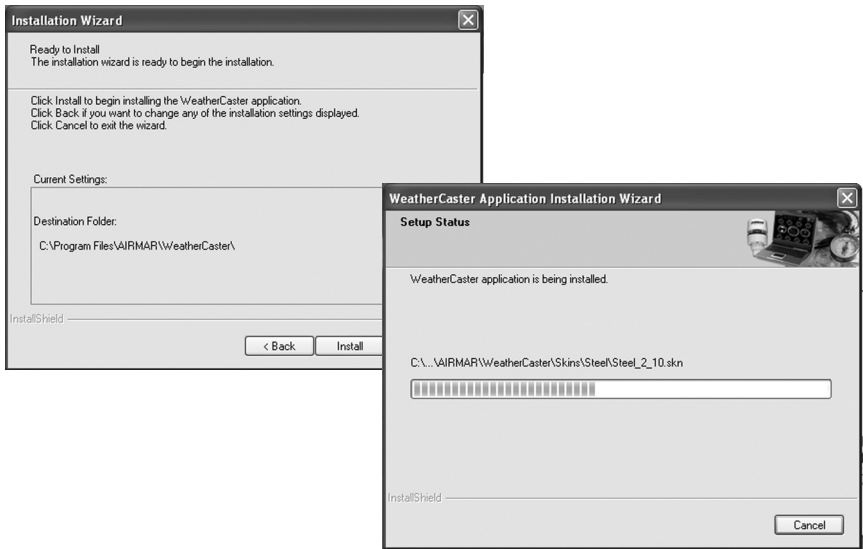

Figure 6. Ready to Install and Setup Status windows
7. The Ready to Install window will appear (see Figure 6). Click Install. The Setup Status window will be displayed while the WeatherCaster software is being installed.